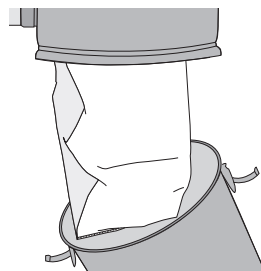

figure 15
1. To access the bag, unlatch the two clips and remove the dust receptacle (**figure 15**).
2. Unlatch the two clips and remove the dust receptacle (see page 17, **figure 15**).